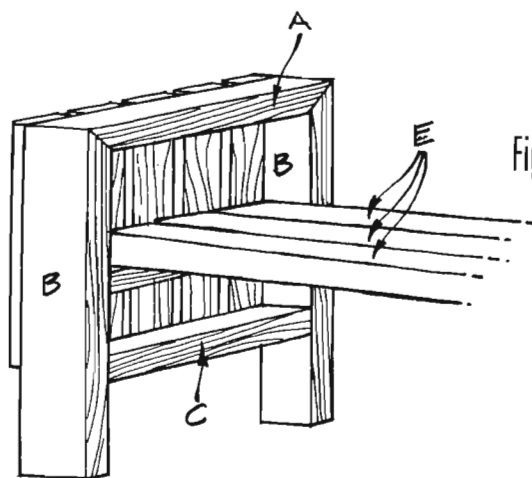

Figure 3
1. Cut three seat pieces (E) from 2 x 6 treated lumber, each 60 inches long.
2. Position the side assemblies with the trim (D) facing out, and attach the seat pieces (E) to the upper side supports (C), as shown in *Figure 3*. Use three 3-1/2-inch-long screws at each end of each seat piece (E).
3. An optional step (if your bench will be subjected to lots of weight) is to attach two 2 x 4 braces, each 60 inches long, to the lower side supports (C).